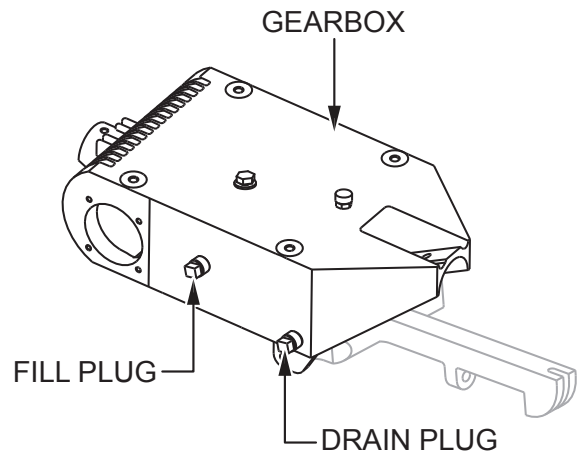

Figure 22. Gearbox Oil
1. Remove the fill plug on the side of the gearbox (Figure 22) to determine the gearbox oil level. The correct oil level is to the bottom of the fill plug. There is a sufficient amount of oil inside the gearbox if oil seeps out when the fill plug is removed.